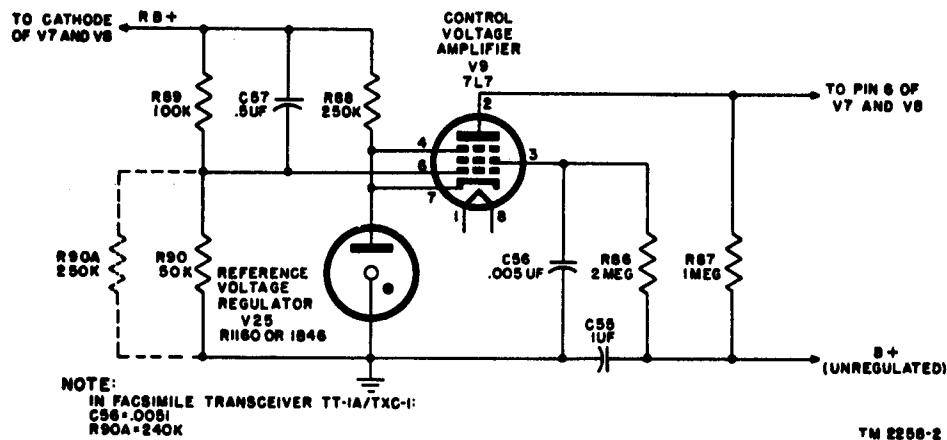

Figure 64. Control voltage amplifier, RB+ circuit, Facsimile Transceivers TT-1/TXC-1 and TT-1A/TXC-1.
b. To understand the functioning of the circuit in Facsimile Transceivers TT-1/TXC-1 and TT-1A/TXC-1, assume that the +250-volt output of the regulator suddenly changes to some higher voltage because of line or load changes. The grid bias on tube V9 (fig. 64) is the difference in potential between the cathode and the grid of the tube. In this circuit, that potential difference consists of the difference between the voltage drop across V25 and the voltage drop across the parallel combination, R90 and R90A. This combination is part of the voltage divider circuit which also includes R89, and is across the regulated +250-volt output. However, the voltage drop across R90 and R90A is opposite in polarity to that across V25 when the cathode grid circuit is considered. The voltage drop across R90 and R90A changes approximately one-third as much as the voltage of the +250-volt supply. The drop across V25 is constant. Normally, the bias on V9 is about -3 volts. When the output voltage rises slightly above 250 volts, the bias on tube V9 increases in a positive direction. More positive grid voltage